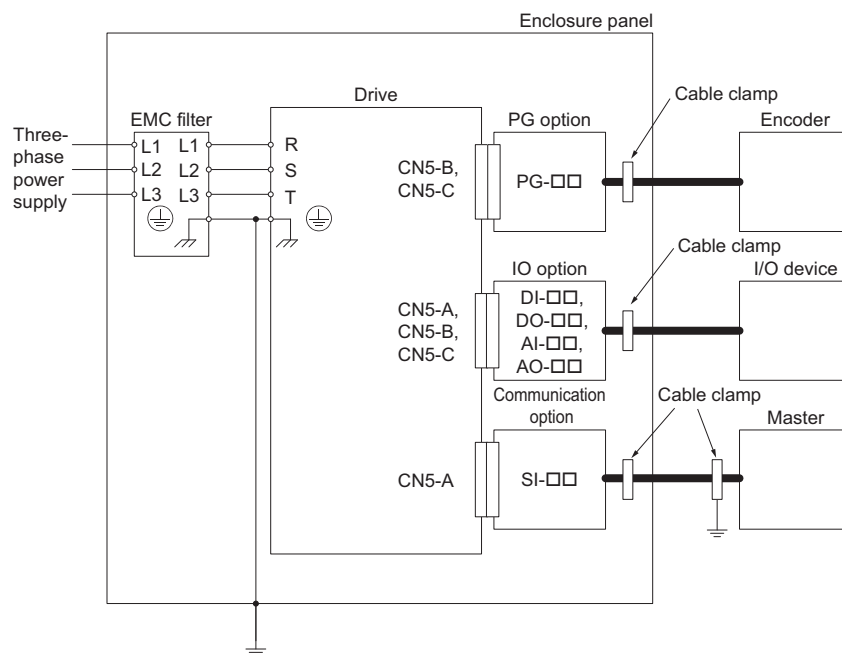

Figure 28 Option Installation (PG-□□, DI-□□, DO-□□, AI-□□, AO-□□, SI-□□)
2. Keep wiring as short as possible and ground the largest possible surface area of the shield to the metal panel according to Figure 28.